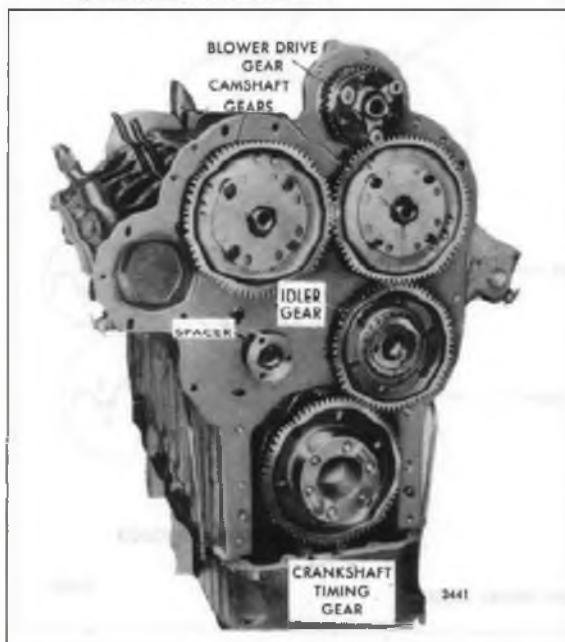

Fig. 1 - Gear Train
3. Place the small end of the injector timing gage in the hole provided in the top of the injector body with the flat of the gage toward the injector follower (Fig. 1). Refer to Tables 1 and 2 for the correct timing gage (for vehicle engines, refer to Section 14).
A train of helical gears, completely enclosed between the engine end plate and the flywheel housing, is located at the rear of 6V, 8V and 12V-71 engines. The gear train consists of a crankshaft gear, an idler gear, two camshaft gears and a blower drive gear (Fig. 1)